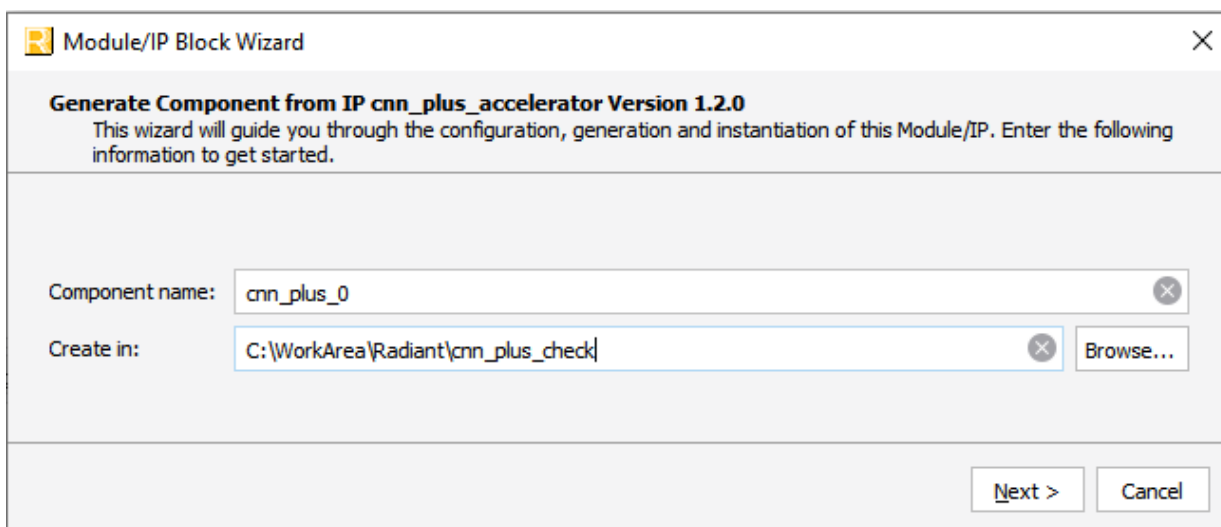
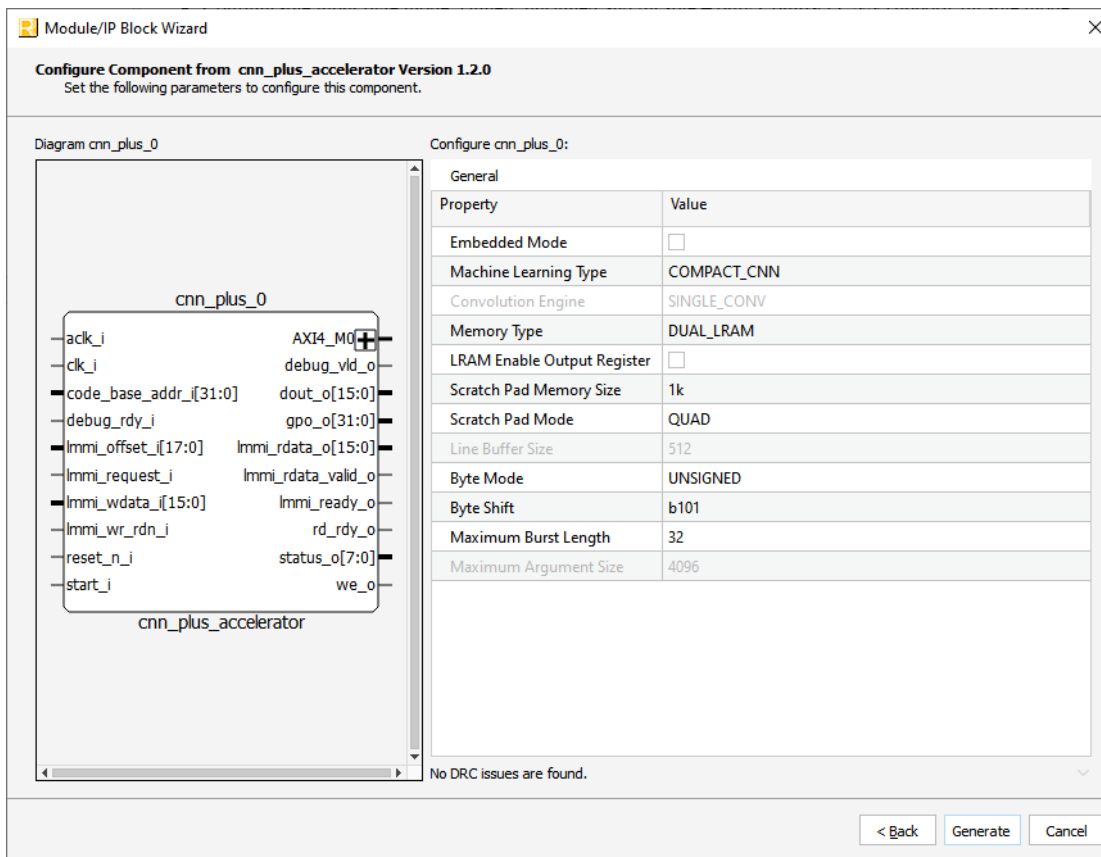
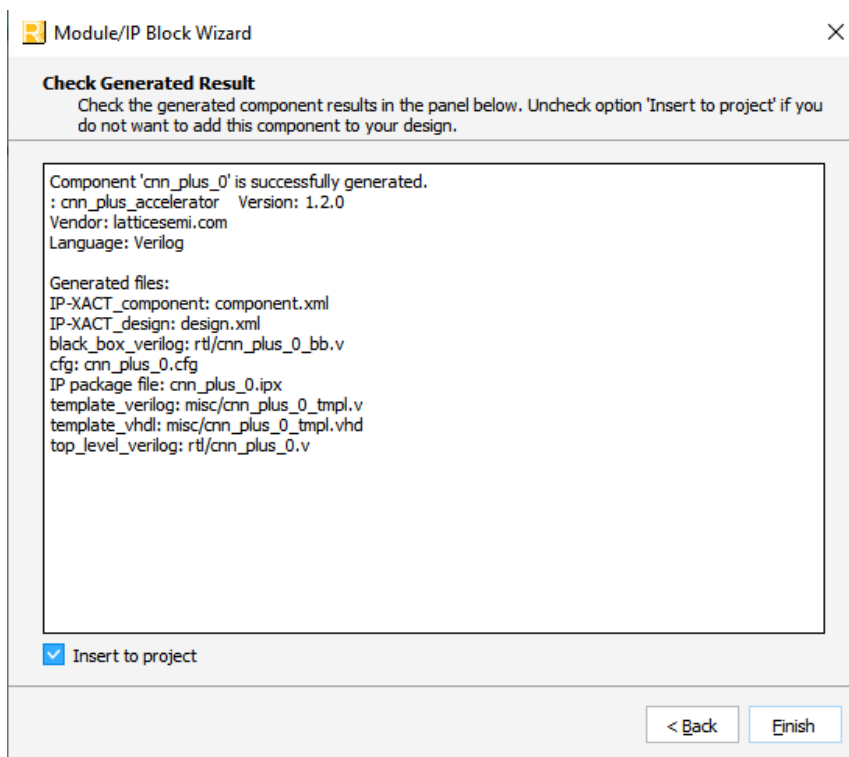

Figure 3.1. Module/IP Block Wizard
Figure 3.2. Configure User Interface of CNN Plus Accelerator IP Core
Figure 3.3. Check Generating Result
2. In the **IP Catalog** tab, double-click on **CNN_Plus_Accelerator** under **IP, DSP** category. The **Module/IP Block Wizard** opens as shown in Figure 3.1. Enter values in the **Component name** and the **Create in** fields and click **Next**.
- In the module’s dialog box of the **Module/IP Block Wizard** window, customize the selected CNN Plus Accelerator IP Core using drop-down menus and check boxes. As a sample configuration, see Figure 3.2. For configuration options, see the Attribute Summary section.
- Click **Generate**. The **Check Generating Result** dialog box opens, showing design block messages and results as shown in Figure 3.3.
5. Click the **Finish** button. All the generated files are placed under the directory paths in the **Create in** and the **Component name** fields shown in Figure 3.1.
Core Generation Simulation and Validation	Updated Figure 3.1, Figure 3.2, and Figure 3.3.